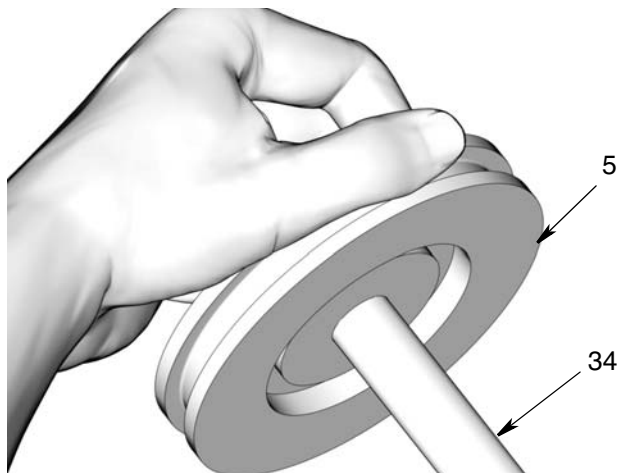

FIG. 30
6. Push piston (5) over end of piston rod (34) until it is seated on the rod (FIG. 30).
7. Install nut (37) over the end of the piston rod (34). Use two wrenches, working in opposite directions to tighten the nut. Secure one open end wrench to flats of piston rod and use the second wrench to tighten the nut as shown in FIG. 30. Torque nut to 13 to 15 ft. lbs (17.6 to 20.3 N.m).